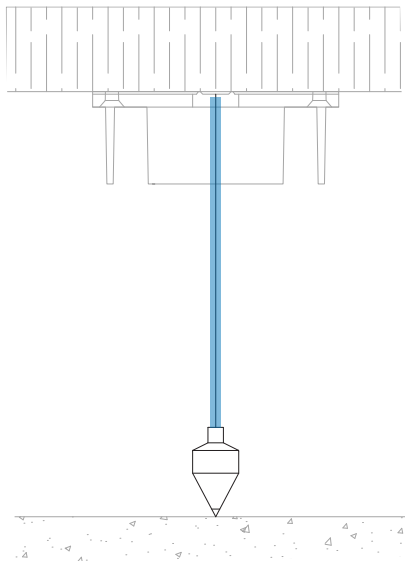
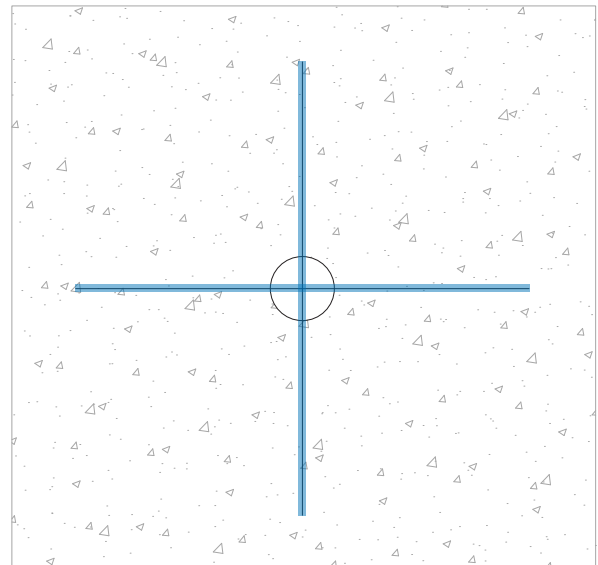
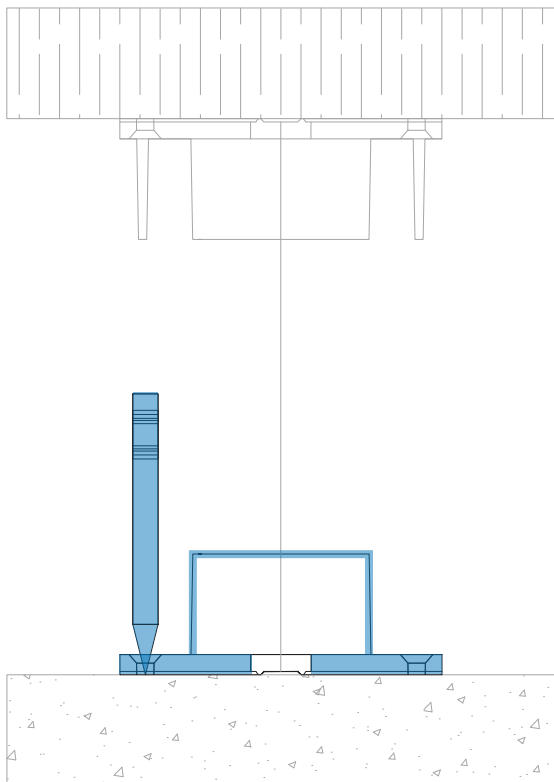
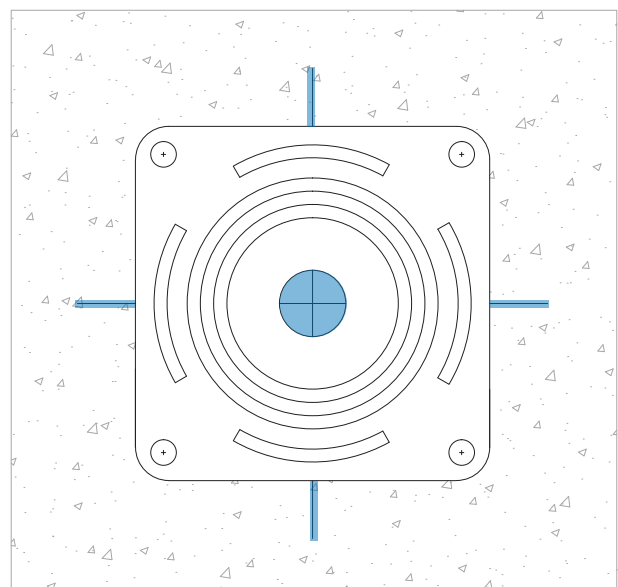

Fig. 6a
Fig. 6b
Fig. 7a
Fig. 7b
Step 2 - Identify the correct location of the top mounting plate first, and use a plumb line dropped from the center point of the top plate location to accurately align the center point location for the bottom post mounting plate. (Fig. 6a, Fig. 6b, Fig. 7a and Fig. 7b)